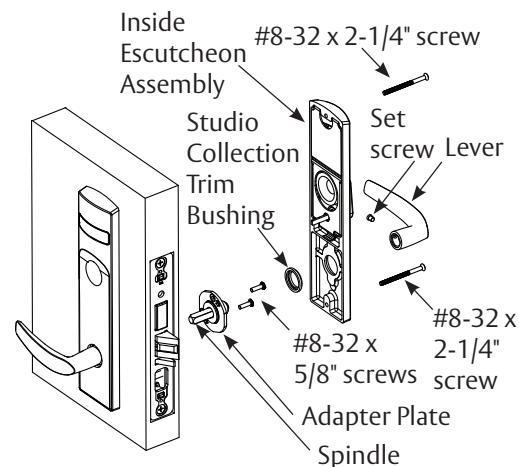

Figure 8
1. Slide spindle into lockbody hub. (Figure 8)
3. Secure with two (2) #8-32 x 5/8" screws.